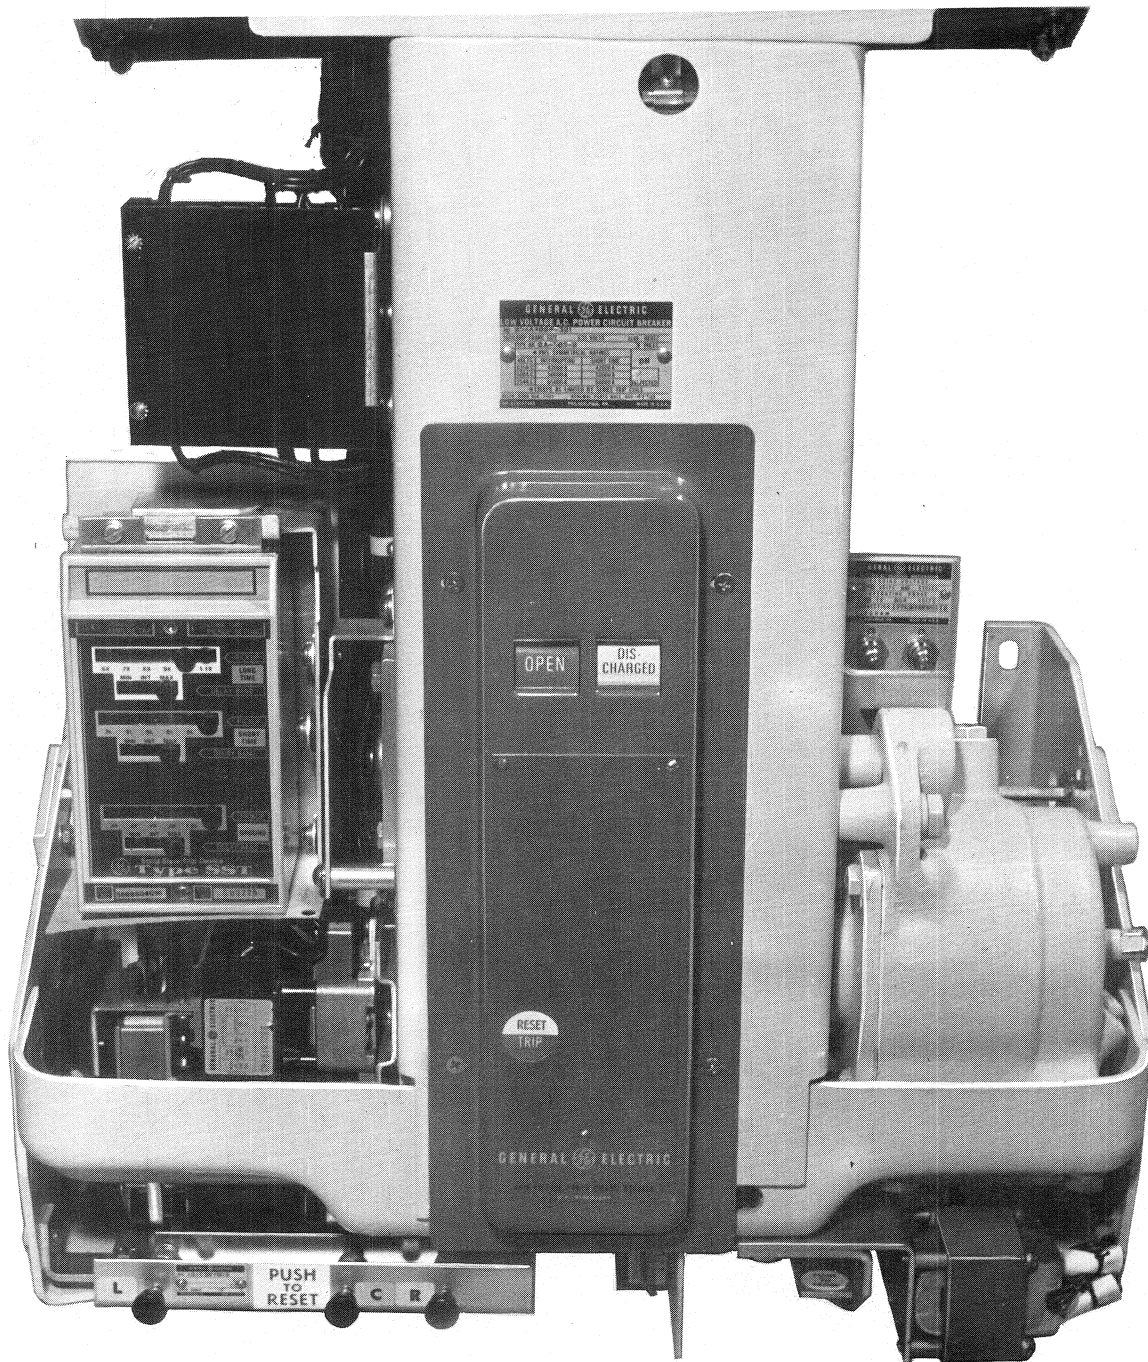

Fig. 1 — SST programmer unit mounted on AKU-50 breaker.
1. Referring to Figs. 1, 4 & 5, install the programmer mounting brackets 70 and 75 on the breaker's center channel.